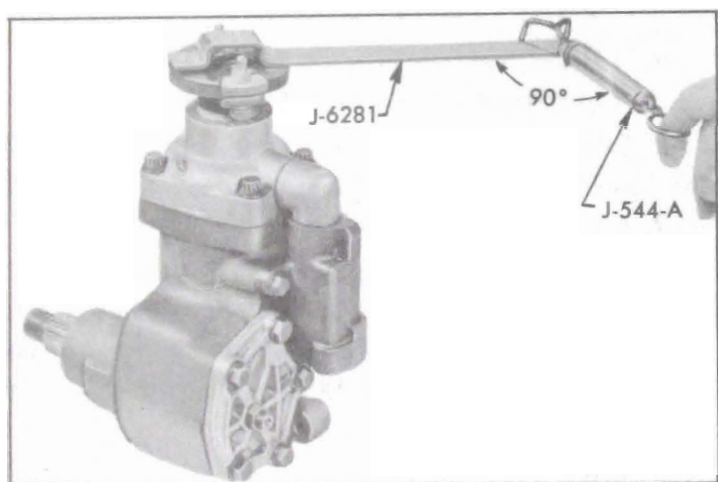

Figure 8-18—Pitman Shaft Adjustment
1. Place power steering gear assembly in vise with wormshaft up. See Figure 8-18. Install Over Center Adjuster J-6281 on flexible coupling.